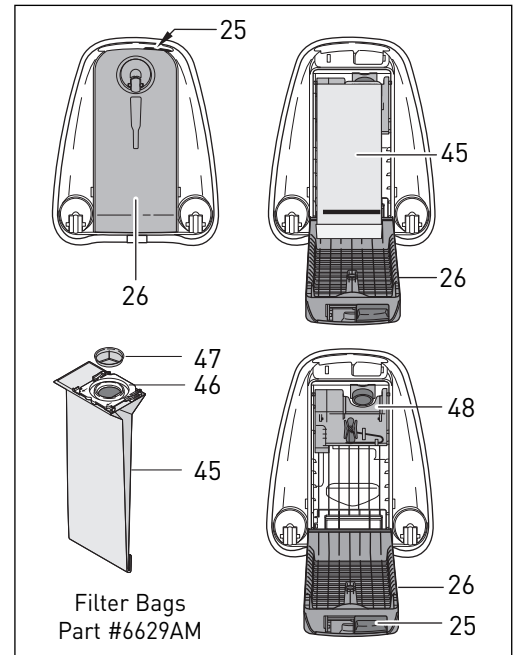

Figure 16
Changing the Filter Bag - Figure 16
Changing the Micro-Hygiene Filter - Figures 16 & 18
After 10 to 20 bags have been used, change the micro-hygiene filter (52). To remove the micro-hygiene filter, set the canister upright (as shown in figure 16). Press the cover release catch (25) and lower the filter bag cover (26). Remove the filter bag, then remove the cover by sliding it up and out of the grooves (53). Pull the old filter out (52) and slide the new filter into the same position. Replace the filter bag, then re-insert the cover by fitting the tabs into the grooves (53) on both sides and sliding it in and down. Push the cover closed, making sure it snaps shut completely.
Remove hose (10) from vacuum cleaner (see figure 21), open the filter bag cover and remove the filter bag. (figure 16, page 9). Clean out entrance to bag (58).